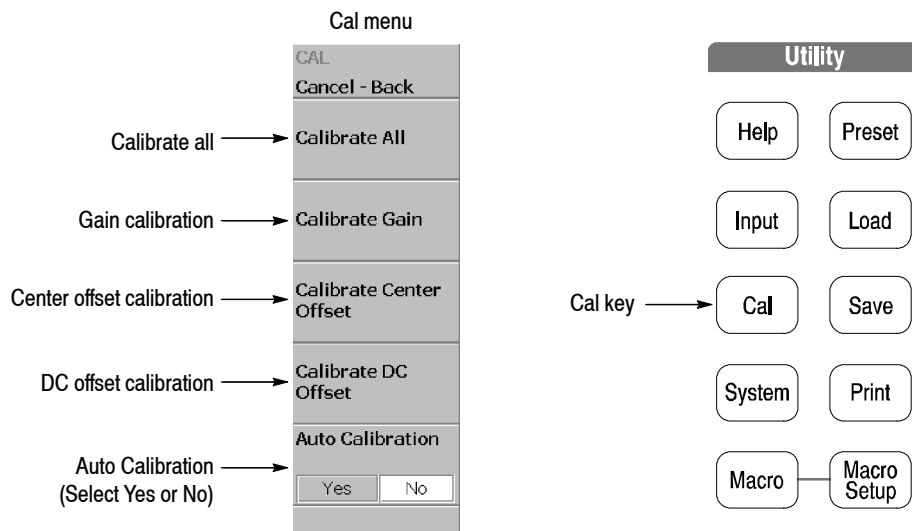

Figure 4-7: Calibration menu
1. Press the **Cal** key on the front panel (see Figure 4-7).
NOTE. *Enabling Auto Calibration (see Figure 4-7) allows the analyzer to run the center offset calibration automatically when analyzer settings change.*